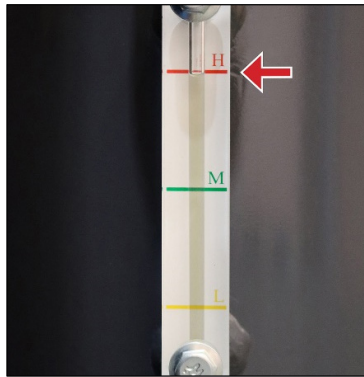

Figure 5-1: Full Oil Level Indication
- e. Close the oil drain ball valve and reinstall the oil drain plug. Fill the air-oil receiver with fresh lubricating oil until the oil level reaches the high ('H') limit red line on the oil level gauge as shown in Figure 5-1. Reinstall and tighten the screw-plug in the oil filling port.